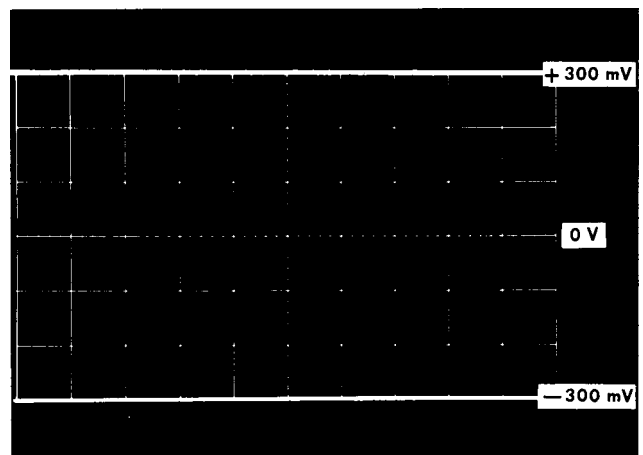

Fig. 5-2. Positioning range of OUTPUT DC LEVEL with test oscilloscope set to $0.1\ \text{V/cm}$.
- Rotate the OUTPUT DC LEVEL control throughout its range and check for a positioning range of at least + and -3 centimeters ($\geq +$ and $-300\ \text{mV}$ at the probe amplifier output). See Fig. 5-2.